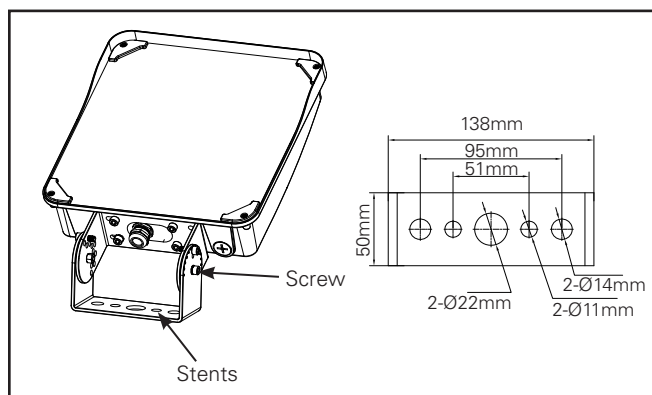

Figure 4
2. Mount fixture to surface using the hole pattern provided on the trunnion bracket (figure 4).